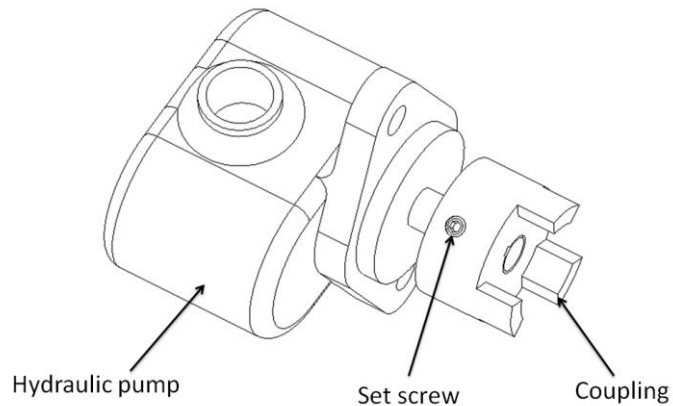

Figure 25 : Hydraulic pump coupling details
6. Unscrew the set screw then remove the coupling from the hydraulic pump shaft (see Figure 25).